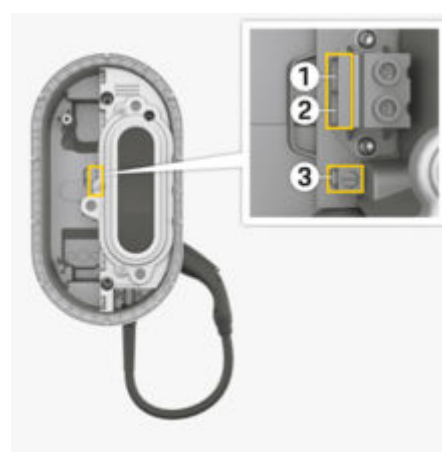

Fig. 15 Cable connection points
2. Connect L1 1 (Fig. 15) and L2/N 2 (Fig. 15) to the large black terminal block.
3. Connect the ground 3 (Fig. 15) to the small terminal block. Tighten the screw of the terminal block with a torque of 1.5 ftlb. (2 Nm).